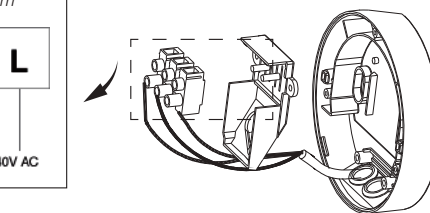

Fig. 7
- Secure the Junction box & Terminal block to the PIR and tighten cable clamp over Mains Cable. (Fig. 7)